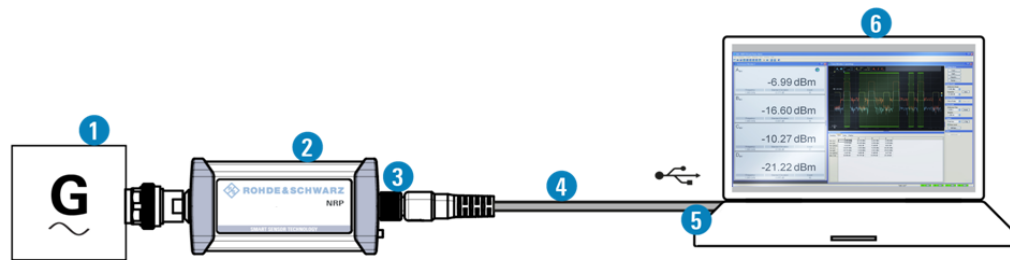

Figure 3-8: Configuration with an R&S NRPV
1. Connect the power sensor to the PC as shown in Figure 3-8.